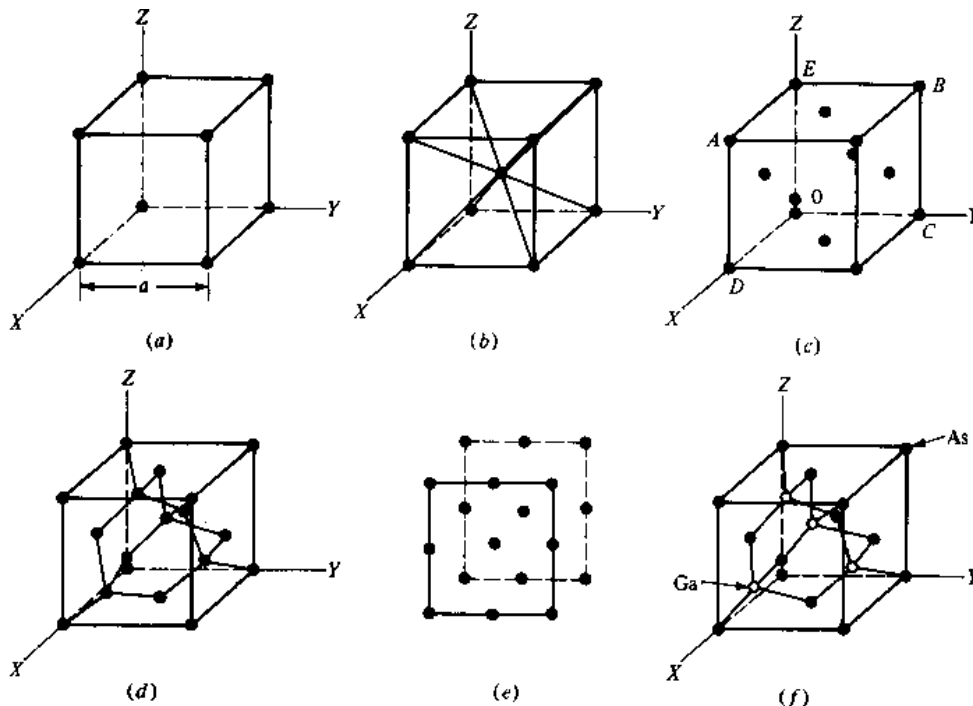

FIGURE 1-3
① sc crystal (Fig 1-3 a)
② bcc crystal (Fig 1-3 b)
③ fcc crystal (Fig 1-3 c)
④ Diamond structure (Fig 1-3 d)
- Fig 1-3 e : top view
⑤ Zinc blende structure (Fig 1-3 f)
3) Consider fcc crystal (Fig 1-3 c)